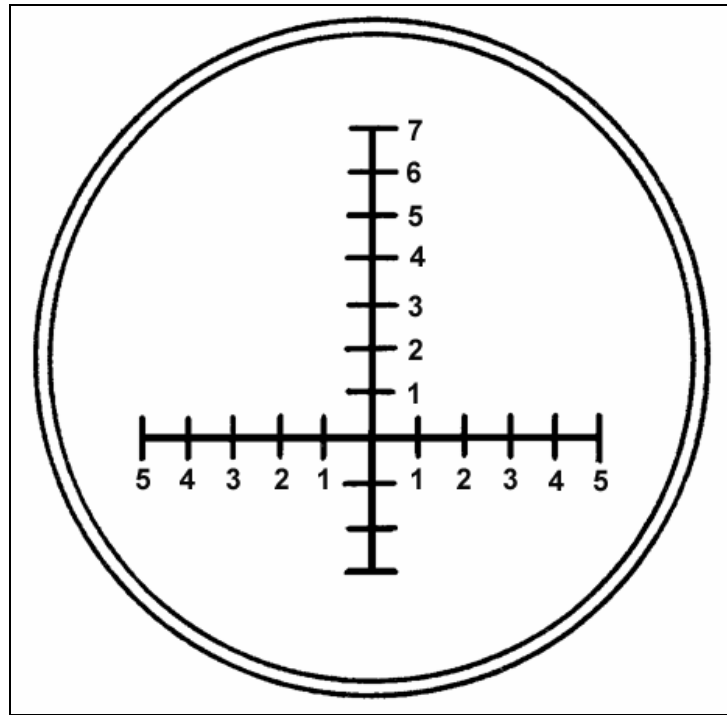
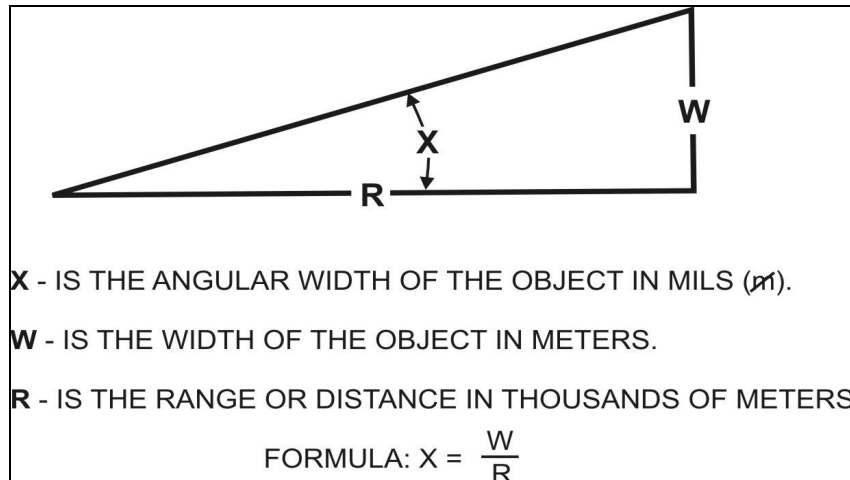

Figure 5-6. M19 binocular reticle.
Figure 5-7. Mil relationship.
Binoculars can be used to determine range. The recently adopted M19 binocular, unlike other models, is a lightweight, compact instrument intended for use in general field observation and fire direction. The binocular's left lens includes horizontal and vertical reticles graduated in 10-mil increments (Figure 5-6). When using binoculars to determine range, the soldier must understand the mil relationship (Figure 5-7).
a. The mil (m) is the unit of angular measurement used in adjusting fire. A circle has 6,400 mils. At a distance of 1,000 meters, an object 1 meter wide measures 1 mil. Change mils to meters by multiplying the number of mils times the range (distance) in thousands of meters. Obtain the unknown width or range to an object using a similar method (Figure 5-7).
b. The mil relationship, as shown in Figure 5-7, is $X = W \div R$; where X is the angular width of the object in mils (m), W is the width of the object in meters, and R is the range or distance in thousands of meters.
(1) To find Width when the known Range is 4,000 meters and the object is 15 m wide, multiply R times X m or 4 (range in thousands) times 15 (mils). The answer is 60 (meters), or $4 \times 15 = 60$ meters.